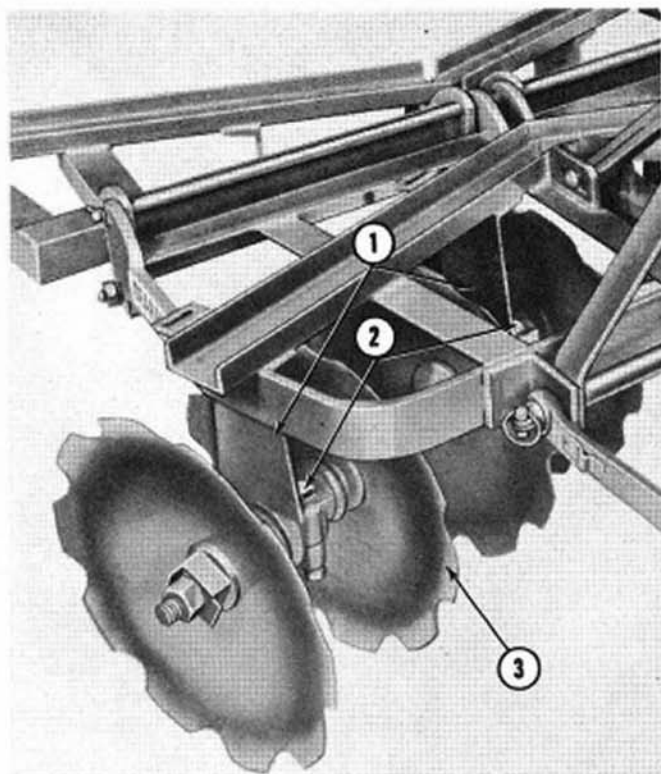

Figure 3
- b. Position the gangs (3), Figure 3, under the frame and attach them to the bearing hangers (1) with the bearing bolts (2), lockwashers and nuts as shown. The lubrication fittings should face to the front on front gangs and to the rear on rear gangs when the bearings are properly assembled.